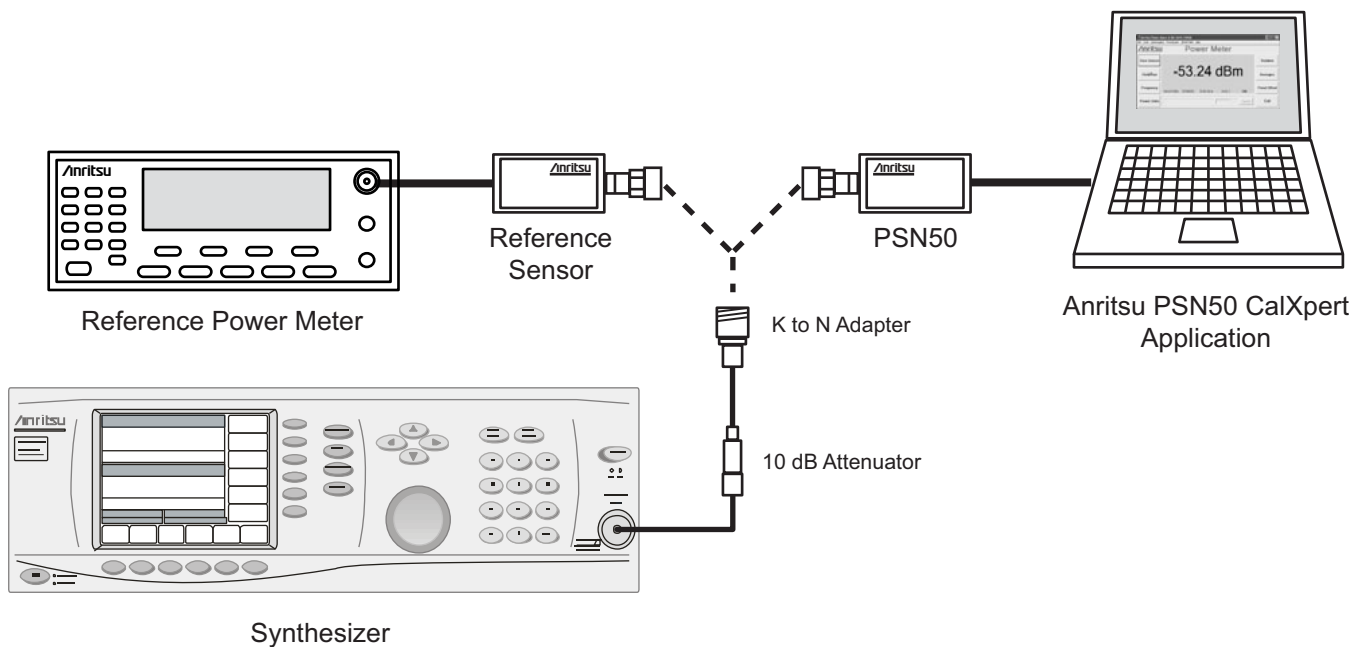

Figure 3-1. Range Connection Characterization Setup (typical)
1. Connect a reference sensor to the synthesizer as shown in Figure 3-1 below:
3. Connect the power sensor to the PC (Figure 3-1) and launch the PSN50 CalXpert wizard: